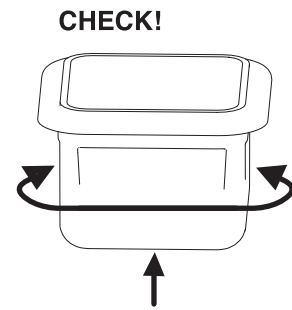

Fig. 2
2. Check for holes or leaks by visually inspecting the surface of the solder pot. (Fig.2)